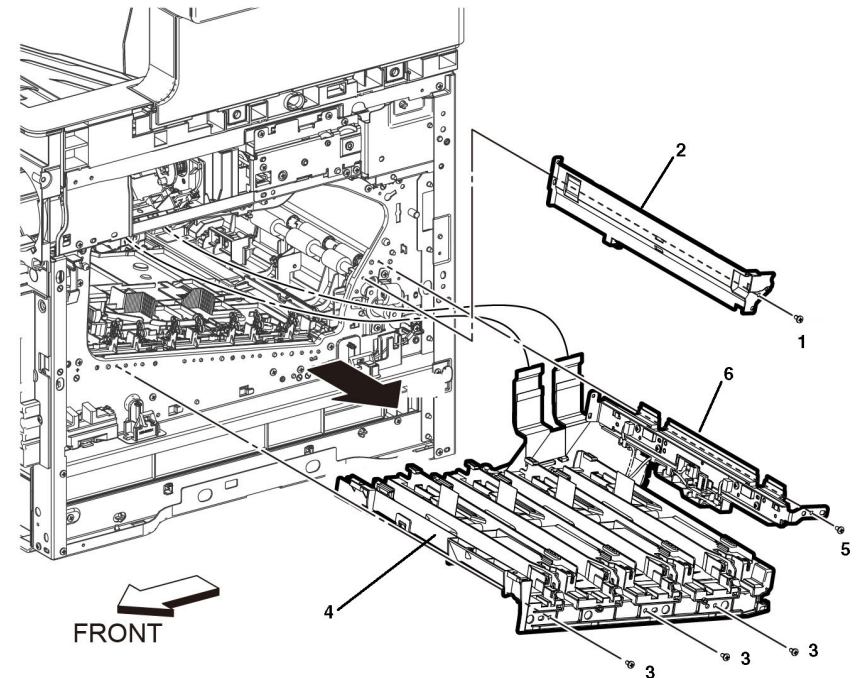

Figure 4 Remove the LPH FFC xerographic CRUM
8. Remove the CTD sensor assembly and the xerographic CRU guide, Figure 4:
- a. Remove the screw (1) attaching the CTD sensor cover (2), PL 6.1 Item 4, then remove the CTD sensor cover.
- b. Remove three screws (3) attaching the xerographic CRU guide (4).
- c. Remove the screw (5) attaching the CDT sensor assembly (6).
- d. Remove the xerographic CRU guide (4) and the CTD sensor assembly (6).